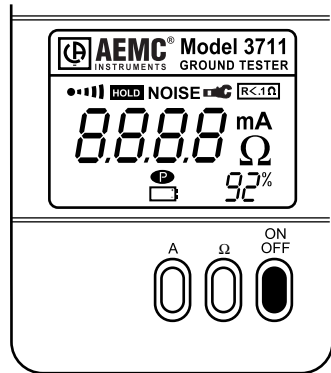

Figure 5
- a. Status of remaining battery life (battery symbol blinks, 0-100%) (Fig. 5)